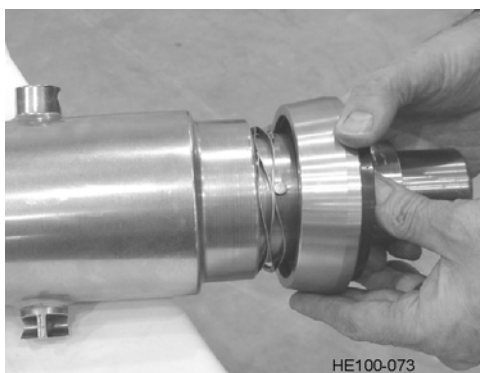

Figure 33 - Mechanical Seal Installation
- Install the mechanical seal on the drive end of the shaft as shown in Figure 33. See "Mechanical Seal Maintenance" on page 57.